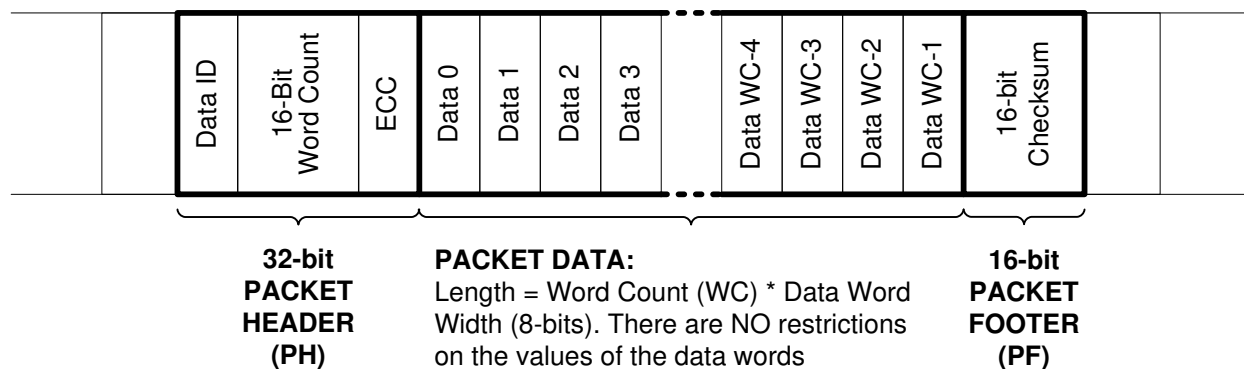

图 7-9. CSI-2 Long Packet Structure
A long packet consists of three elements: a 32-bit packet header (PH), an application-specific data payload with a variable number of 8-bit data words, and a 16-bit packet footer (PF). The packet header is further composed of three elements: an 8-bit data identifier, a 16-bit word count field, and an 8-bit ECC. The packet footer has one element, a 16-bit checksum. 图 7-9 shows the structure of a long packet.